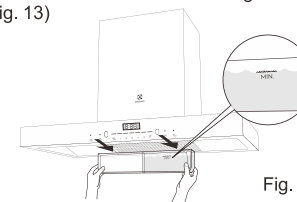

Fig. 13
- Install water container to the range hood. (Fig. 13)